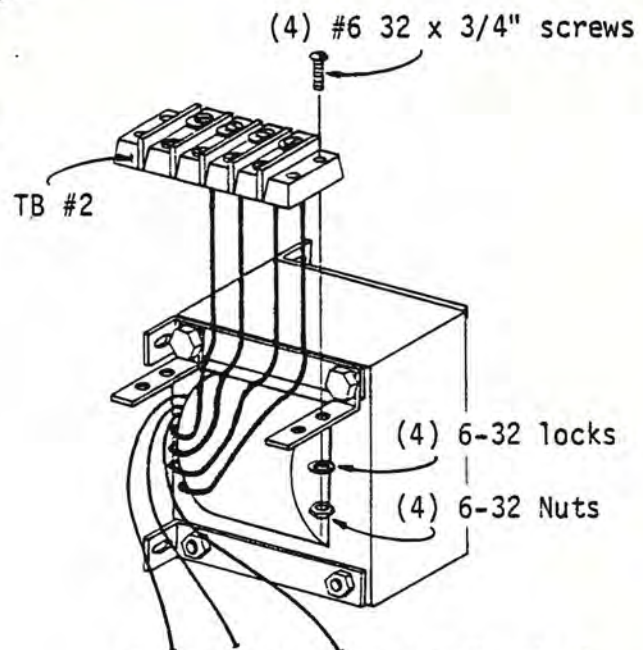

Figure 5-59 Mounting Terminal Block on Transformer
5. Mount the terminal block to the "L" brackets on the transformer with four (4) #6-32 x 3/4 inch screws, four (4) #6-32 nuts and four (4) #6 lockwashers (see Figure 5-59).